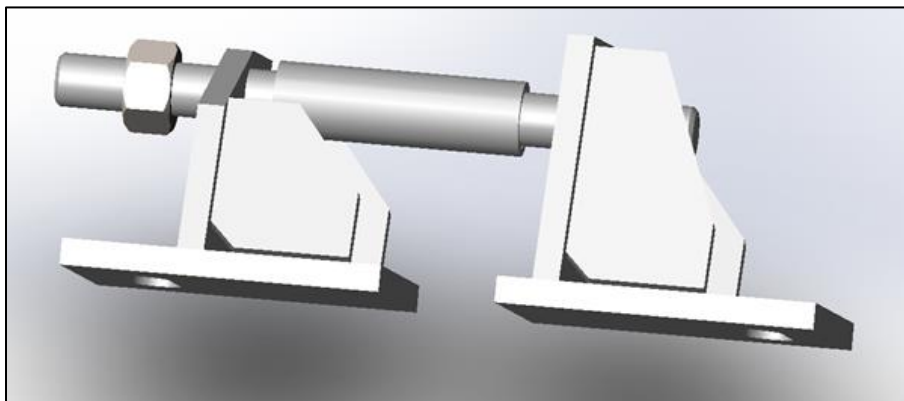

Figure 3 : Lower frame support
- 4- Position the Lower frame supports front mounting angles in line with the front hole on the frame horns. The Short bracket goes on the inside of the frame and the long bracket goes on the outside. See figure 3.